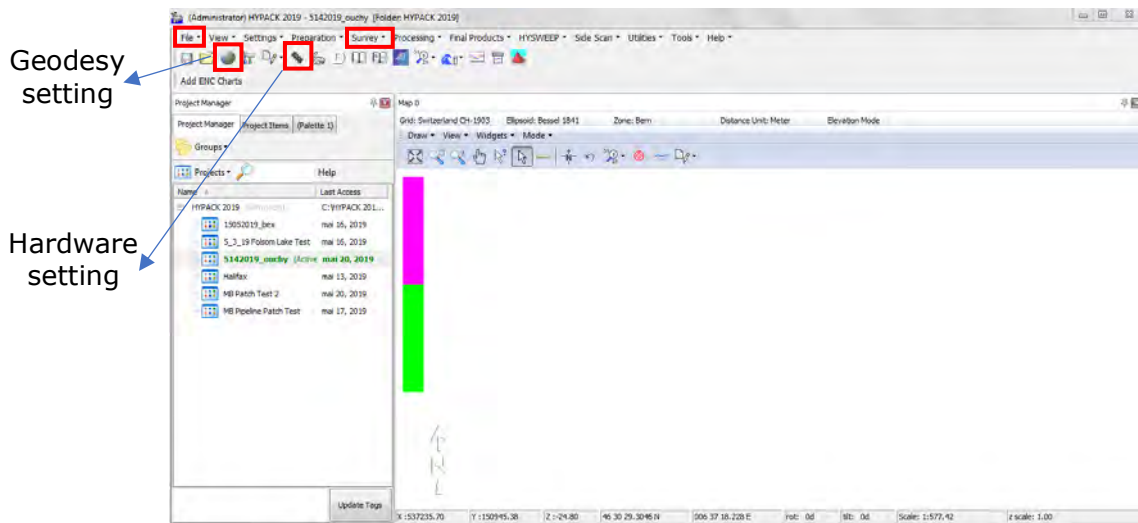

Figure 33: HyPACK main window and location of the main tools
- b. Determine/check the geodesy settings (Figure 33 and 34) -> CH_1903 (if the survey area is in Swiss)
- d. Check the hardware settings (Figure 33)
- ⇒ "Survey" tab (Figure 33) -> "HyPACK survey and HySWEEP survey"
- ⇒ Restart the survey clicking the "Survey" tab (Figure 33)